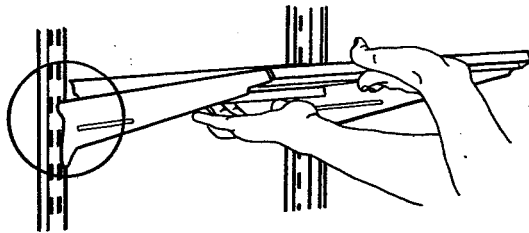

Figure 8.
- Insert metal hooks at back of shelf into desired slot in metal track on back wall of refrigerator. See Figure 8.